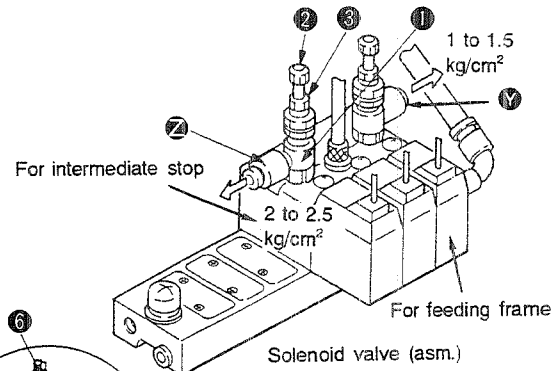

Fig. 4-4-3
- 3) The air pressure on the retracting side of the intermediate stop cylinder is reduced to 2 to 2.5 kg/cm². (Fig. 4-4-3)
- 4) The air pressure on the extruding side of the feeding frame cylinder is reduced to 1 to 1.5 kg/cm². (Fig. 4-4-3)
Set the machine in its sewing state. Now, remove the air hose by pressing section ② of pressure reducing valve ① which is fixed on the solenoid valve (asm.), and connect a commercially available pressure gauge instead of the removed air hose. (Fig. 4-4-3)
Depress the section attached with a cross mark ⊗ by five times or more, and turn needle knob ② of pressure reducing valve ① until the connected pressure gauge indicates a pressure of 2 to 2.5 kg/cm². Then fix the needle knob using nut ③, and remove the pressure gauge. Now, securely connect the removed air hose in place. (Fig. 4-4-3 and Fig. 4-4-8)
- 4) Following the same procedure as described in step 3), depress the section marked with a cross ⊗ by five times or more, and adjust the knob so that the pressure gauge connected to section ④ indicates a pressure of 1 to 1.5 kg/cm². (Fig. 4-4-3 and Fig. 4-4-8)